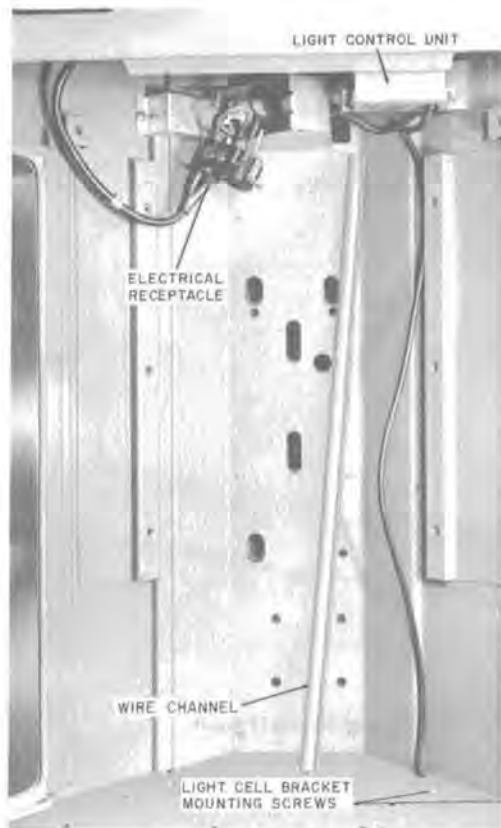

Fig. 15—Installation of List 3 Light Control Unit
- (c) Remove wire channel (Fig. 15) from right side of housing.